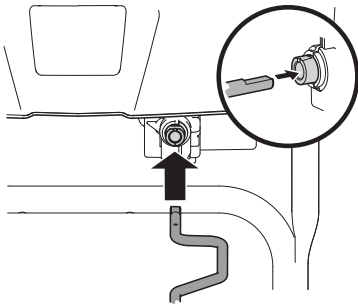

Figure 2-46
5. Insert other end of chute control rod into coupler below handle panel. Make sure to line up flat end of rod and flat end of coupler. You may need to rotate rod around until these two surfaces line up. See Figure 2-46 inset.